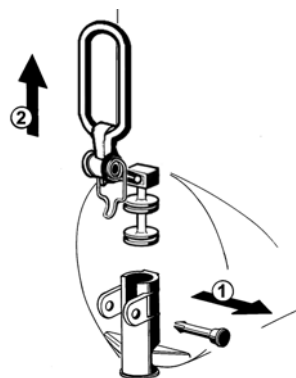

figure 11
5 Dismantle the faucet assembly (see figure 11).
- 3 Assemble the faucet by reversing the disassembly steps (see figure 11)